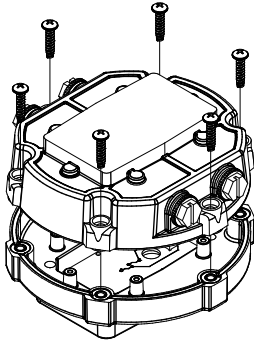

Figure 16
- Remove (6) screws retaining the cover plate to the base and lift the cover plate free of the base (see Figure 16).